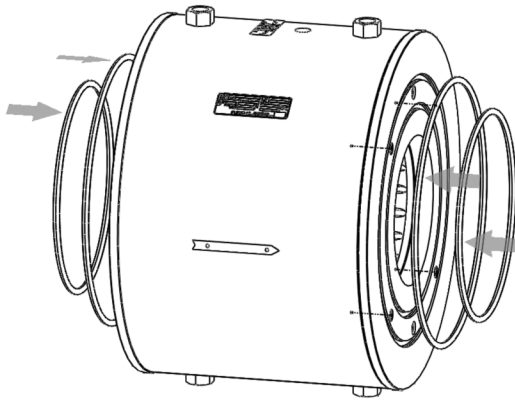

Figure 20 - Re-install cover plate O-rings.
16. Return the body assembly to horizontal position (if the Surge Reliever is installed horizontally) and replace the cover plate O-rings as shown in Figure 20 below. O-rings should be evenly covered with a light coat of O-ring lubricant prior to installation.